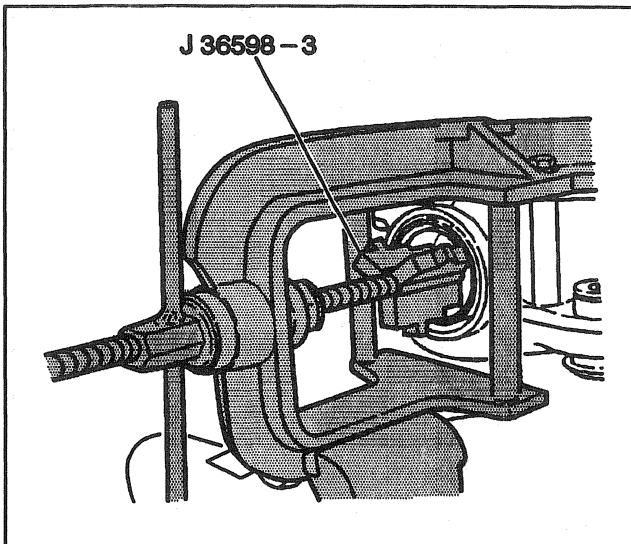

Figure 25—Installing the Outer Pinion Bearing Cup
1. Outer bearing cup. Use the forcing screw and J 36598-3 (K1 and K2 models) or J 36598-4 (K3 model) (Figure 25).